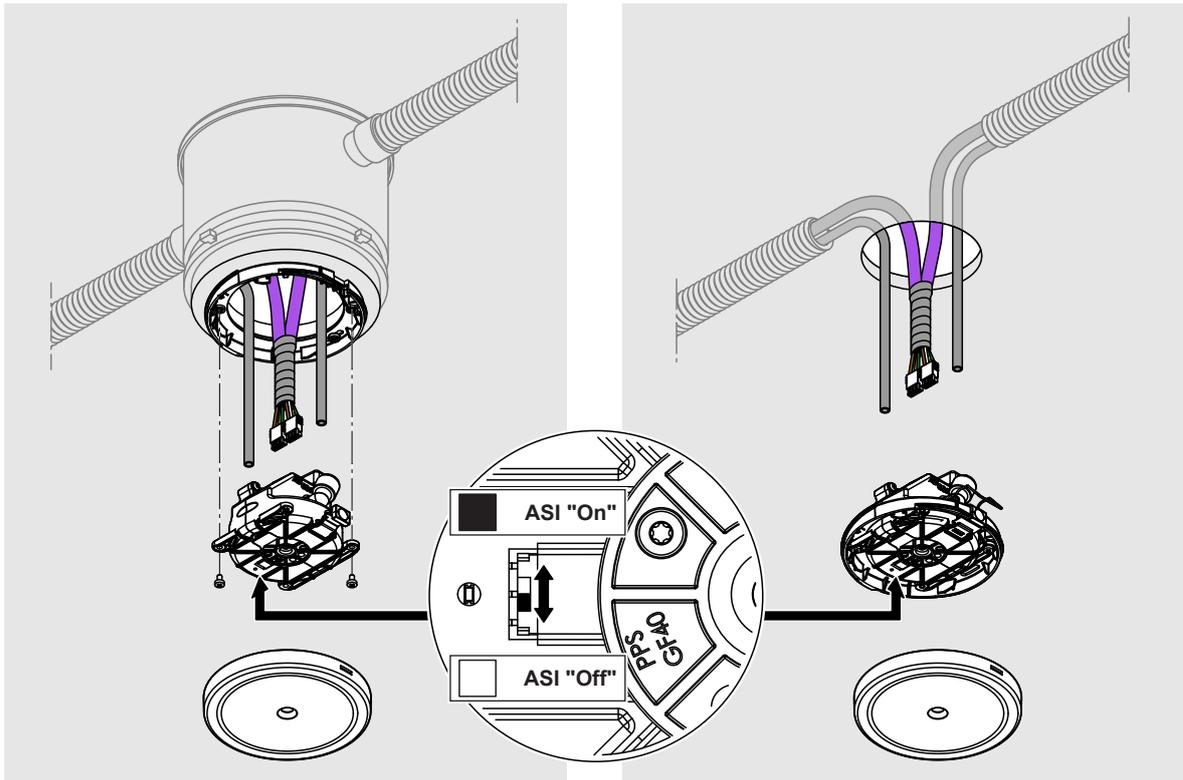

Fig. 99: Replacing the spray head (screwed spray head version on the left, pluggable spray head version on the right)
3. Loosen the two screws (screwed version only, see Fig. 99 left).